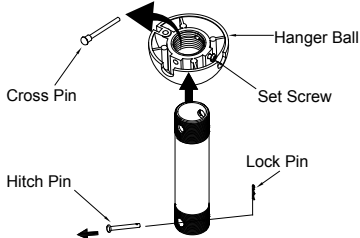

Fig. 5
Step 2. Remove the hanger ball from downrod assembly by loosening set screws, removing the cross pin, and sliding ball off the rod. Remove the lock pin and hitch pin from the downrod. (Fig. 5)